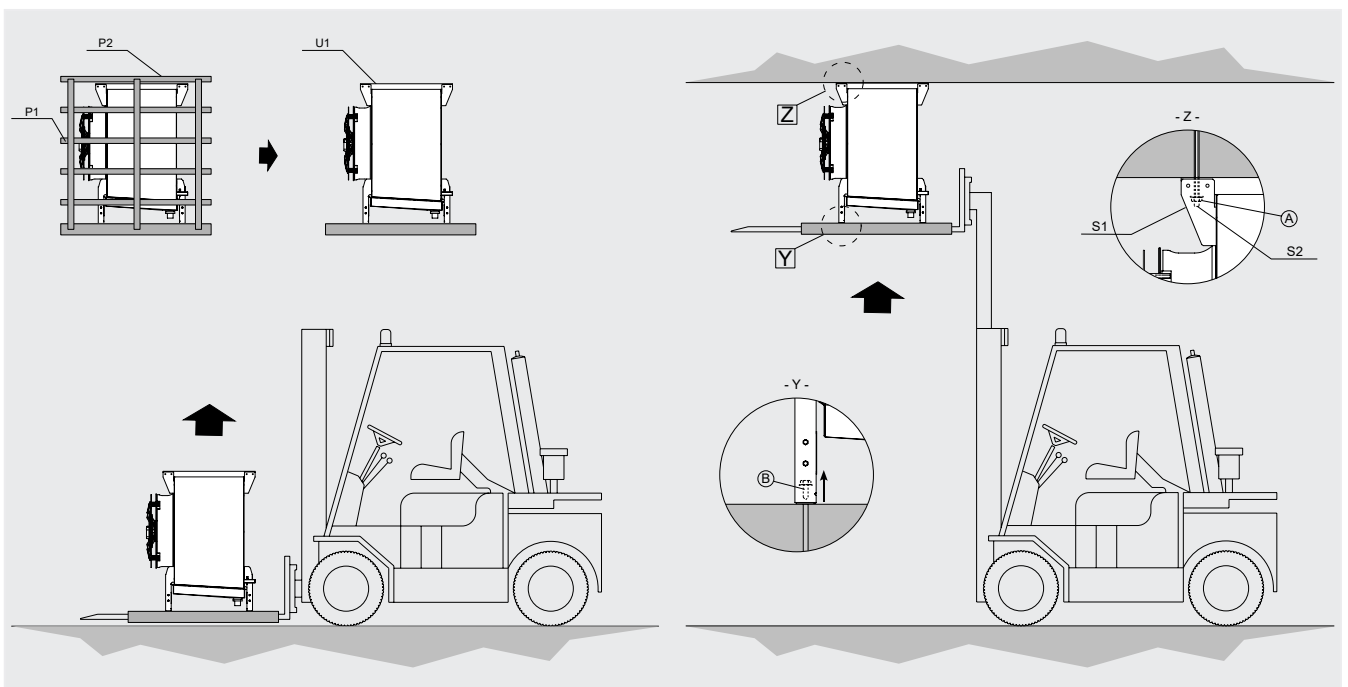

Figure 4
- 5.12 Ceiling installation instructions - see Figure 4: